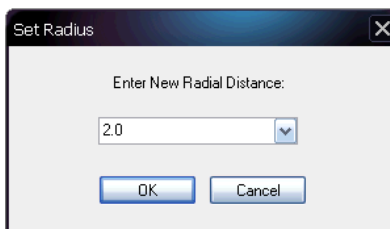

Figure 140: Solution Plot – Set Radius
- ✓ *Radius*: Click to set the radius of the plot. The *Set Radius* window opens (see Figure 140). The default radial distance is 2.0 m. Click the drop-down menu to select a new radial distance.